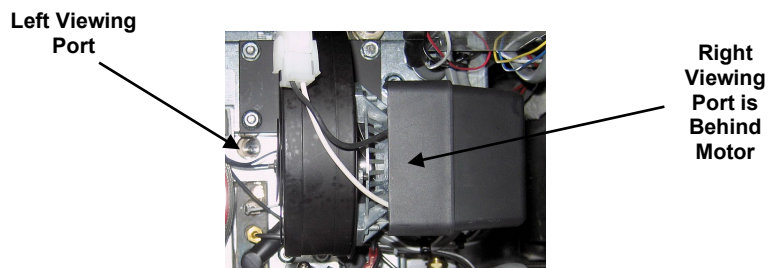

Figure 7
9. After the burners have been lit for at least 90 seconds, observe the flames through the burner viewing ports located on each side of the combustion air blower. (See Figure 7)